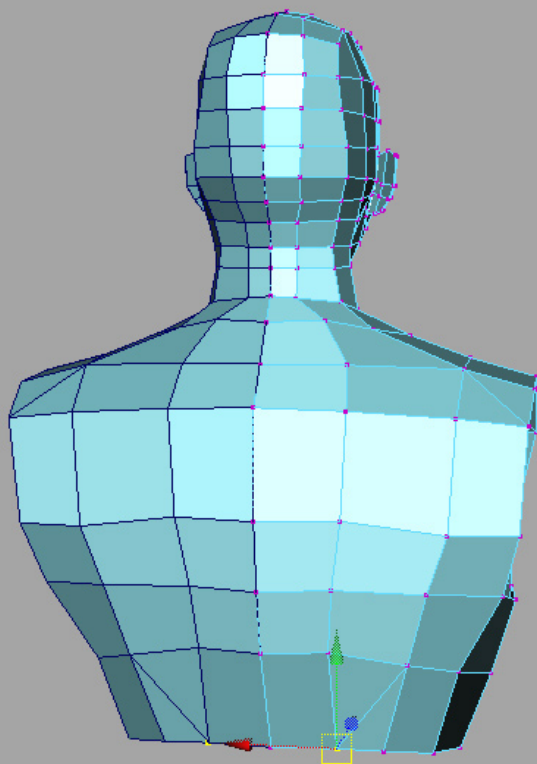

Fig 12
12. In order to give a proper form to the back's muscles we're going to merge the vertex to the one to its left (see "Fig 12"). Doing this we'll have a triangle following the shape of the muscles running downwards from the shoulder blades.